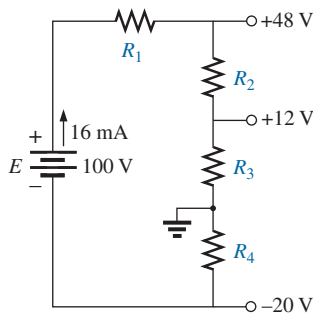

FIG. 5.123
40. Determine the values of  $R_1, R_2, R_3,$  and  $R_4$  for the voltage divider of Fig. 5.123 if the source current is 16 mA.